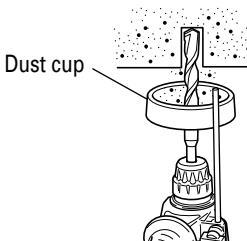
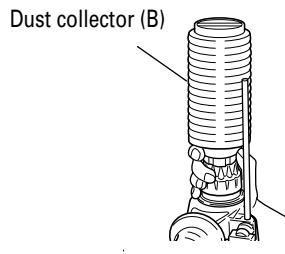

Fig. 4
Fig. 5
7. Installation of dust cup or dust collector (B) (Optional accessories) (Fig. 4, Fig. 5)
Use the dust cup by attaching to the drill bit a shown in Fig. 4.
- Installing dust collector (B)
When using dust collector (B), insert dust collector (B) from the tip of the bit by aligning it to the groove on the grip (Fig. 5)